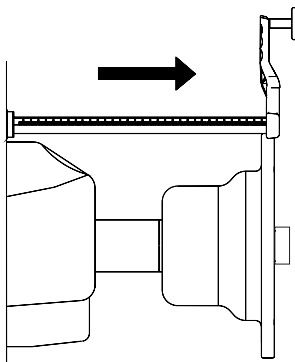

Figure 19
4. Gently pull the SAPE arm OUT until it is fully extended, Figure 19, hold it steady for about 1 second.